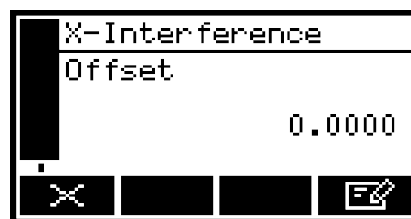

Figure 22: The X-Interference offset screen
2. Use the  and  soft keys to highlight the "X-Interference" menu option, then press the  soft key: the X-Interference offset screen is then displayed, as shown in Figure 22.